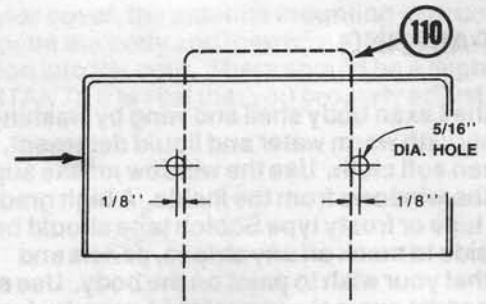

FIG. 51
12. Place the bent U-shaped wing wire (110) on the bottom side of the wing (111) in the position you wish it mounted. Fig. 51.
13. Drill two 5/16" dia. holes as shown in Fig. 51.